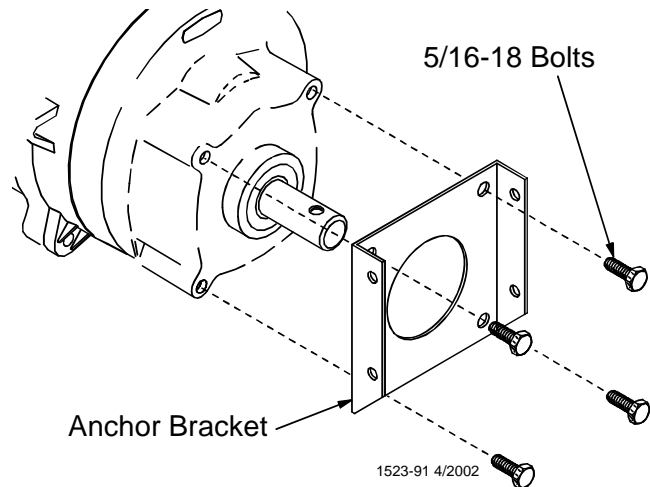

Figure 34. Installing anchor plate
6. Install the Anchor Bracket to the Power Unit/ Gearhead, as shown in **Figure 34**, with the included 5/16-18 Bolts.